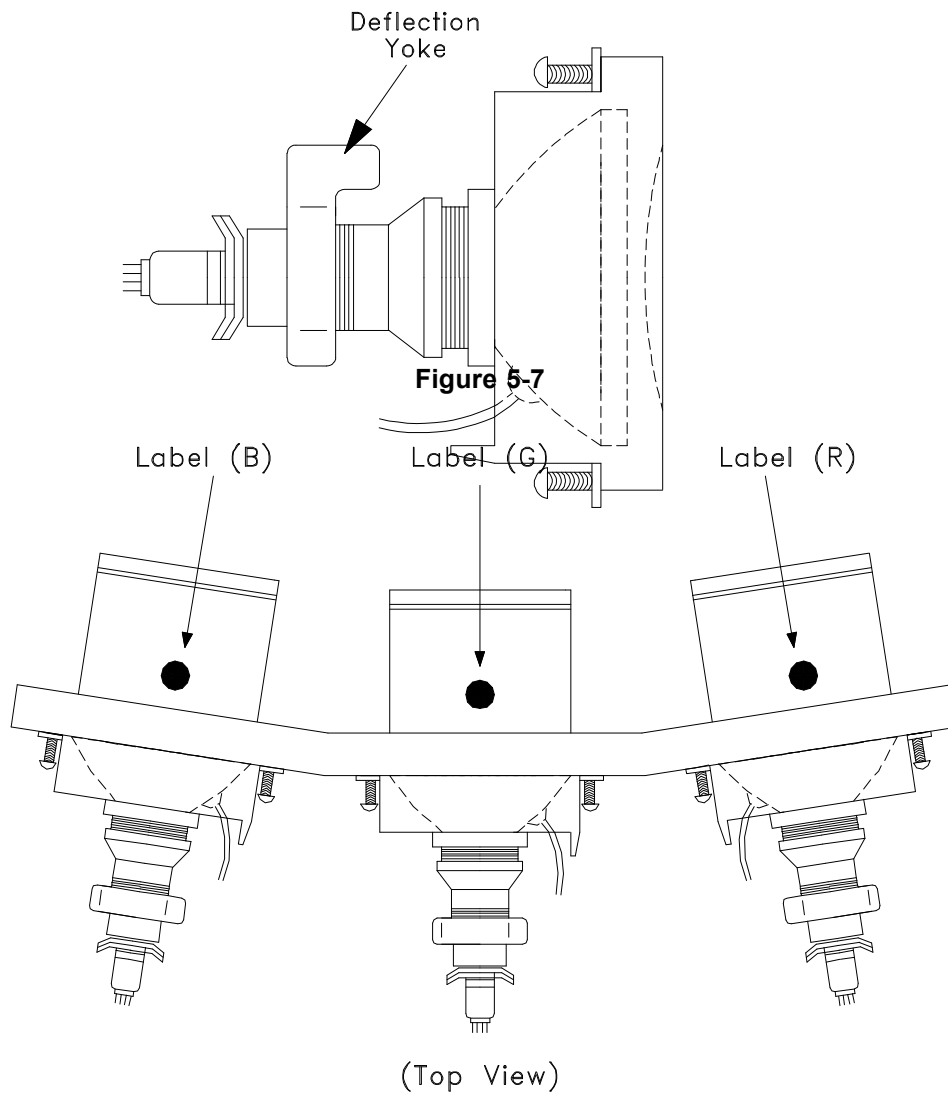

Figure 5-8
- a) Position the Lens so that the Label faces the direction shown in Figure 5-8.